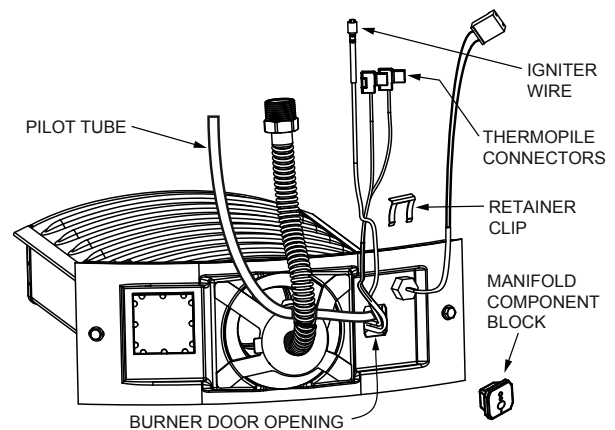

FIGURE 27.
2. Lift the retainer clip straight up from the back of the manifold component block (using a flat-blade screwdriver), then remove the manifold component block from the burner door assembly (Figure 27).
8. Push the new pilot assembly connectors through the opening in the burner door (See Figure 27).
10. Position the new thermopile wires through the top opening of the manifold component block (Figure 27). Be sure that the igniter wire is positioned through the middle opening of the manifold component block. Position the pilot tube through the bottom opening of the manifold component block.